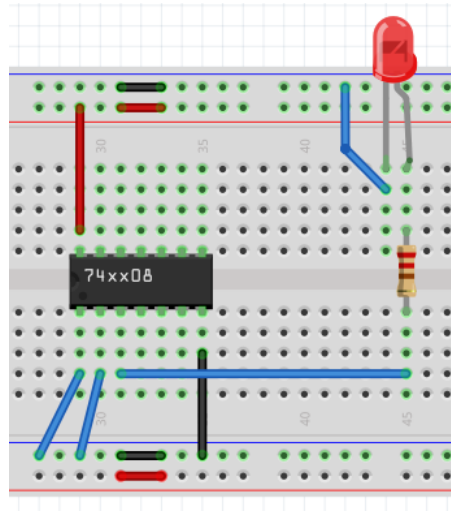

Figure 12
1. Plug the 74LS08 into the solderless breadboard (Figure 12).
2. Connect **pin 7** to **GND bus** as shown by the vertical black wire in Figure 12.
3. Connect **pin 14** to **5V bus** as shown by the vertical red wire in Figure 12.
4. Connect the output **Y** of the first AND gate (**pin 3**) to the **resistor** as shown by the horizontal blue wire in Figure 12.
5. Connect input **A** of the first AND gate (**pin 1**) to **GND** (logic 0) as shown by the diagonal blue wire in Figure 12.
6. Connect input **B** of the first AND gate (**pin 2**) to **GND** (logic 0) as shown by the diagonal blue wire in Figure 12.